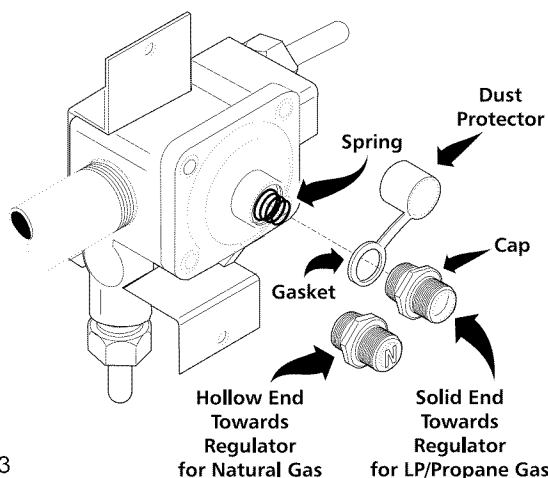

Fig. 3
- Turn the cap over so the hollow end faces outward. Place the solid end of the cap into the loop end of the dust protector (See Fig. 3).